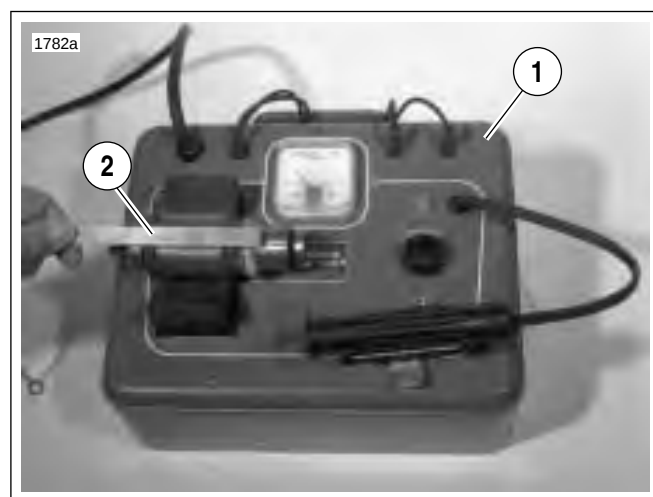

Figure 5-19. Shorted Armature Test Using Growler
9. See Figure 5-19. Check for SHORTED ARMATURE with a growler.
- a. Place armature on growler (1).
- b. Hold a thin steel strip (2) (hacksaw blade) against armature core and slowly turn armature.